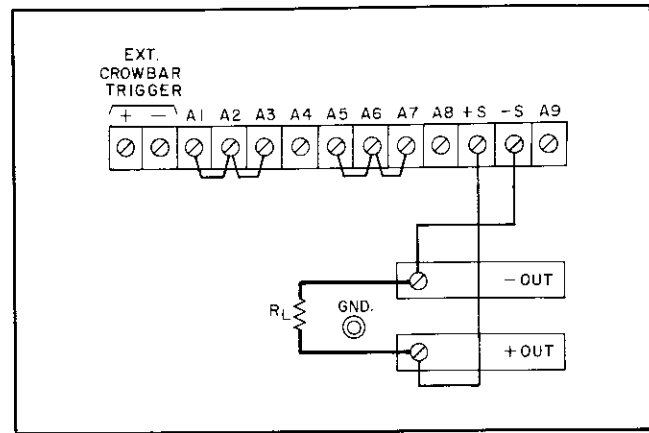

Figure 3-2. Normal Strapping Pattern
- a. Turn CURRENT controls (7) and OVERVOLTAGE ADJUST potentiometer (5) fully clockwise and check that rear panel straps are connected as shown in Figure 3-2, but do not connect load R_L .
- c. Set LINE switch or circuit breaker (1) ON and observe that pilot lamp (2) lights.
- d. Adjust COARSE and FINE VOLTAGE controls (3) for desired indication on voltmeter (4)
- e. Ensure that overvoltage crowbar circuit is operational by slowly turning OVERVOLTAGE ADJUST control (5) counterclockwise with a screwdriver until OVERVOLTAGE lamp (6) lights and voltmeter indication drops to zero volts.
g. To check the constant current circuit, first turn off the supply, connect a short across the output bus bars (see Figure 3-2), and turn it back on.
h. Adjust **COARSE** and **FINE CURRENT** controls (7) until ammeter (8) indicates desired output current or current limit. (The **VOLTAGE** controls must be set for a greater-than-zero output to obtain the output current programmed.)
3-7 This power supply was shipped with the proper rear panel strapping connections made for constant-voltage/constant-current operation with local sensing and local programming. This strapping pattern is illustrated in Figure 3-2. By means of the front panel voltage and current controls, the operator selects either a constant-voltage or a constant-current output. Whether the supply functions in the constant-voltage or the constant-current mode depends on the settings of the voltage and current controls and on the resistance of the output load. For values of load resistance greater than a critical crossover value equal to the voltage setting divided by the current setting, the supply operates in the constant-voltage mode. With a load resistance smaller than this critical value, it operates in the constant-current mode. The transition occurs automatically; no switches need to be operated or connections changed.
3-28 Because of the unavoidable voltage drop developed in the load leads, the normal strapping pattern shown in Figure 3-2 will not provide the best possible voltage regulation at the load. If, for example, one were to use 4-gauge wire to connect a load that is located only 5 feet from a
The +S jumper is the one that links the +S terminal to the +OUT terminal when the supply's terminals are strapped for normal operation as shown in Figure 3-2. The -S jumper is the one that links the -S terminal to the -OUT terminal.